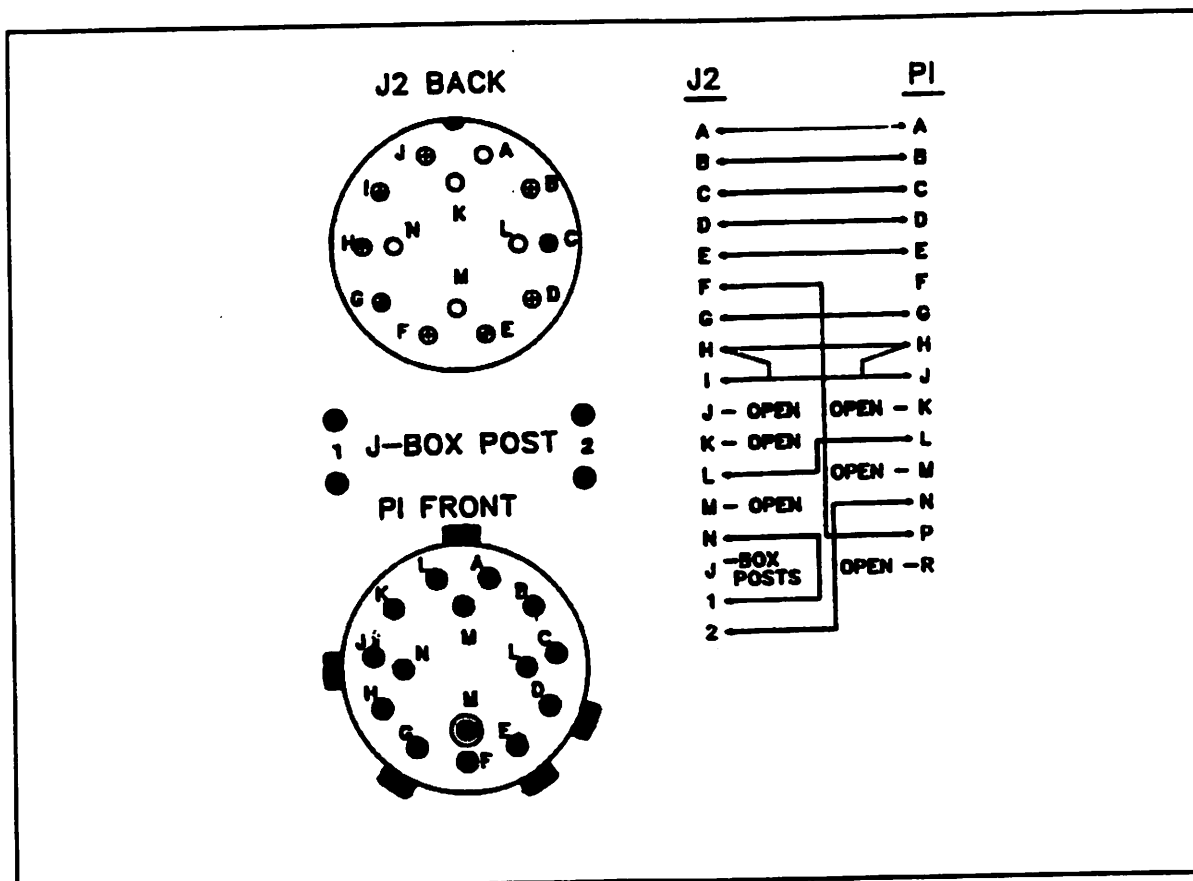

Figure 1 Junction box cable diagram.
6.1 If the scanners being used are 7707/7621 perform the following steps to modify the scanner junction box. Refer to figure 1. If the scanners being used are Advanced Concept Scanners (ACS) all cables terminate directly on the Model 75 electronics rack located inside the bungalow.
6.3 If the scanners being used are 8808/8909 perform the following steps to modify the regulator junction box. Refer to figure 1 for the junction box cable diagram.
6.3.1 Modify the regulator junction box as shown in figure 1 or remove the junction box amplifier and voltage regulator assembly and install interface cable HPN 200601-000